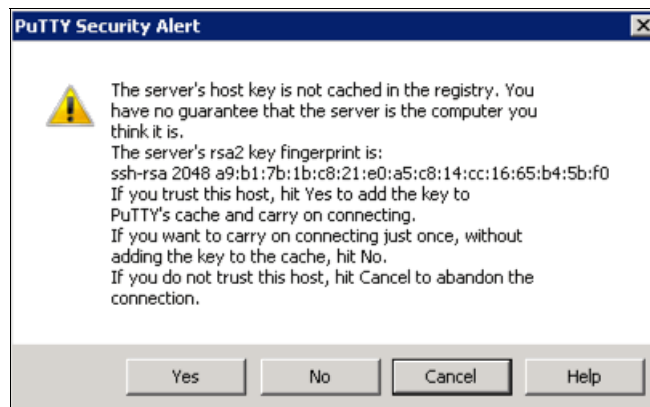

Figure 8-13 PuTTY Security Alert
10. Select the new session and click **Open** to connect to the IBM Storwize V7000 system. A PuTTY Security Alert opens; confirm it by clicking **Yes** (Figure 8-13).